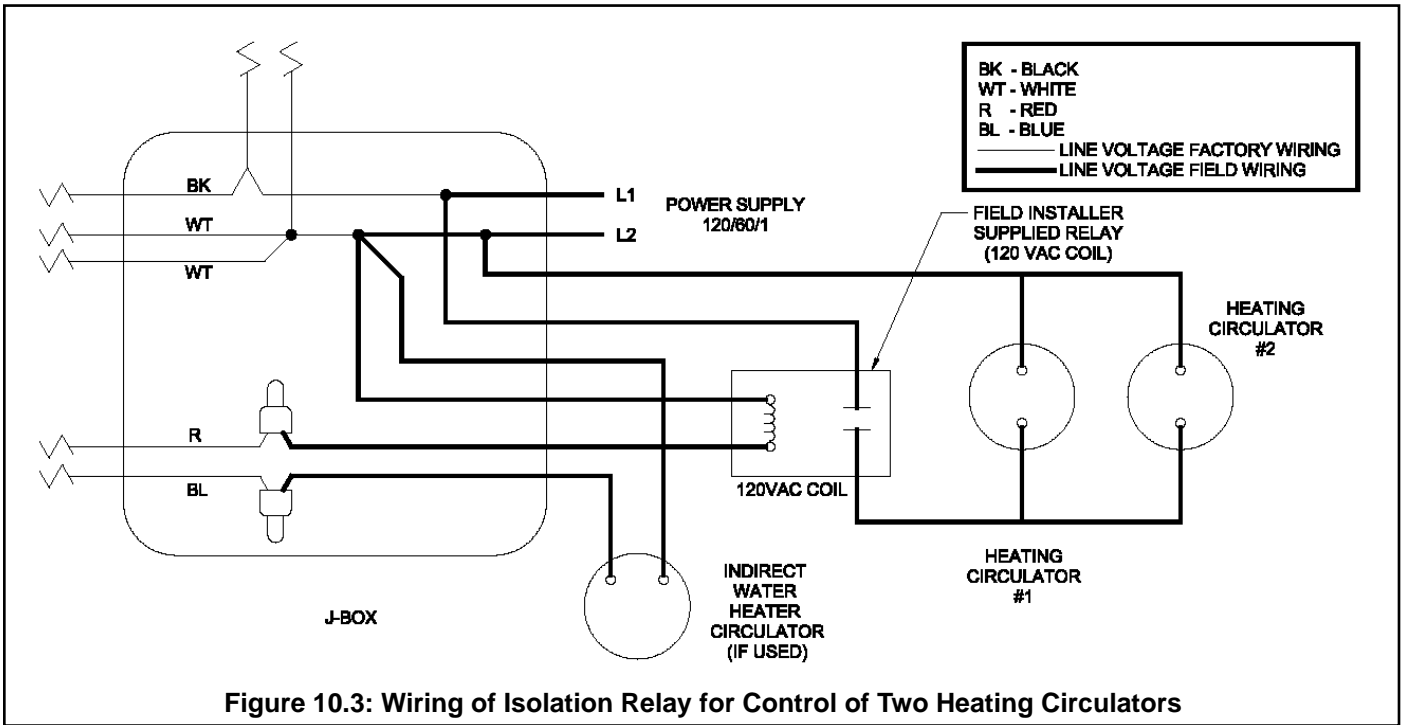

Figure 10.3: Wiring of Isolation Relay for Control of Two Heating Circulators
NOTE: 1) Use isolation relay between Taco 0013 and FCM - see Figure 10.3
- 3) Use isolation relay between Taco 0013 and FCM - see Figure 10.3
- 2) Maximum circulator continuous current draw is 2A. When Piping Method #1 is used, it may be desirable to use the boiler to directly control the primary circulator in addition to the secondary circulator. If this is done, control both heating circulators using a relay with a 120VAC coil, such as a Honeywell R4222, as shown in Figure 10.3. Select a relay with a contact rating in excess of the combined draw of the two circulators.